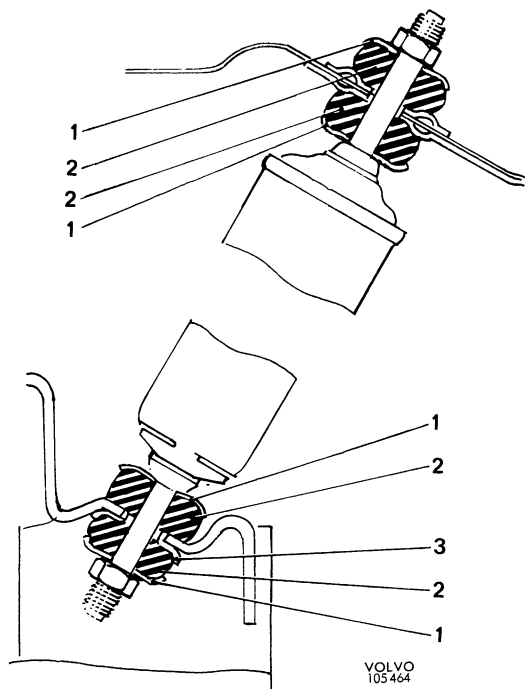

Fig. 7-7. Rear shock absorber attachment
4. When fitting, place washers and rubber bushes according to Fig. 7-7.